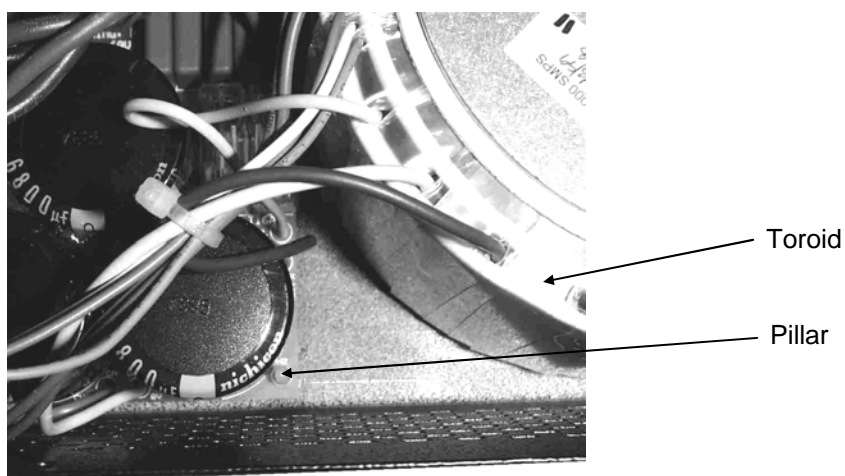

fig.8
- 3) Using Long-nose pliers, squeeze the joining pillar in the Amplifier PCB (see fig.8) to release it from the PCB.